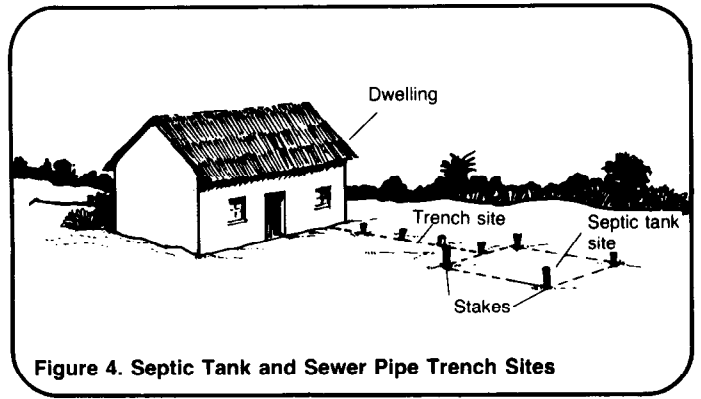

Figure 4. Septic Tank and Sewer Pipe Trench Sites
2. Locate the site of the tank using the location map and measuring tape, and mark it on the ground with wooden stakes or pointed sticks as shown in Figure 4. Do the same for the trench line for the sewer pipe from the building to be served to the tank site. Double check the location map to make certain the staked-out locations are correct before beginning construction.